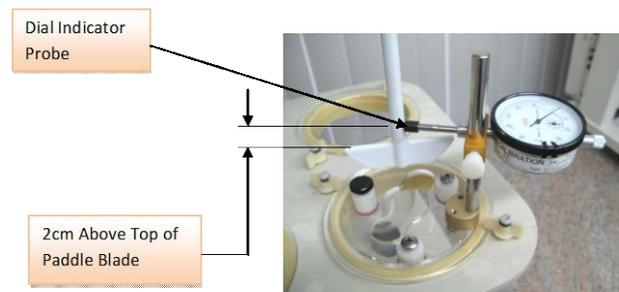

Figure 4
4.4.1.3 With the paddle shaft secured, lower and position the dissolution drive head so that the dial indicator probe is located about 2cm above the top of the paddle blade and adjust the location of the indicator assembly to establish a pre-load of at least one revolution of the indicator dial. Tighten the thumb screws to lock the gage in place. See Figure 4.
- 4.7.1.5 Set the dissolution tester speed to 25 RPMs and place one finger in front of the anti-rotation handle as shown in Figure 4. (Some Distek 5100 series instruments may be equipped with a drive head position limit switch that prevents spindle rotation. These instruments require manual rotation.)